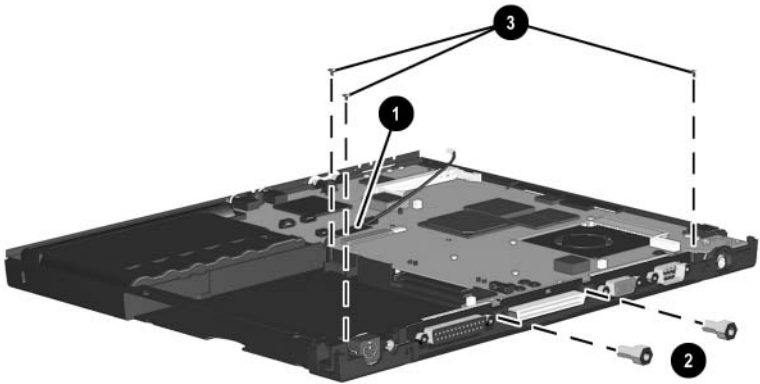

Figure 5-22. Removing the System Board Screws and Bushing Guides on an Evo Notebook N600c
3. Remove the tape that secures the modem cable to the system board ❶ (Figure 5-22).
4. Remove the two 7.0-mm bushing guides ❷ on either side of the docking connector that secure the system board to the base enclosure.
5. Remove the three TM2.5 × 5.0 screws ❸ that secure the system board to the base enclosure.